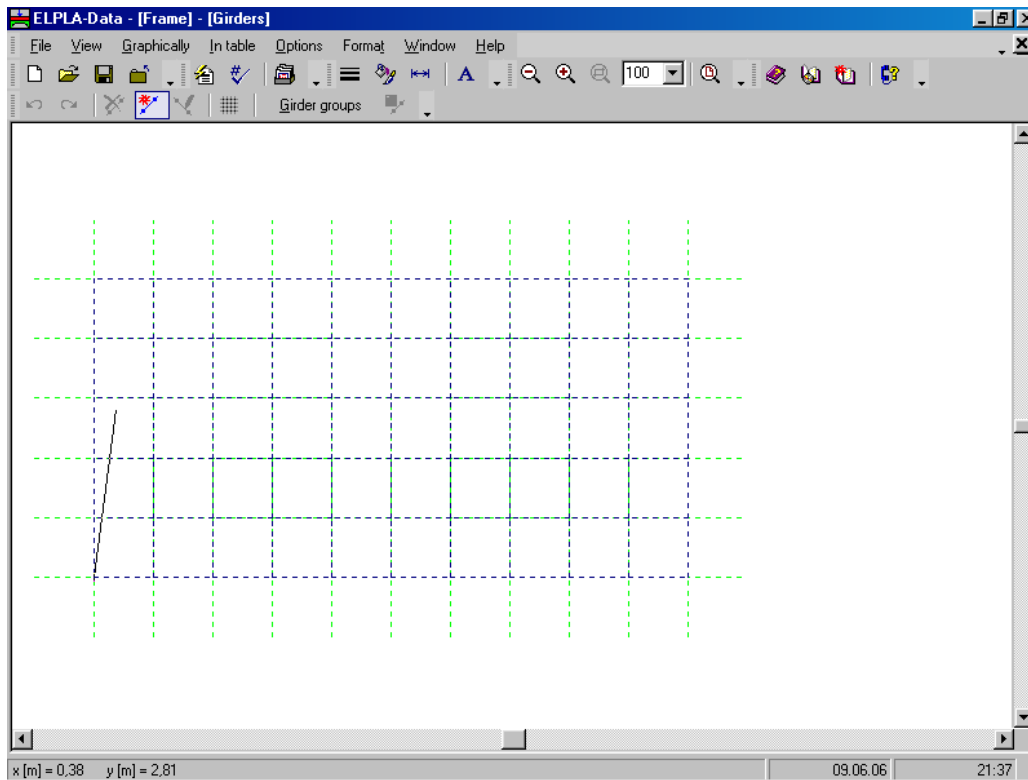
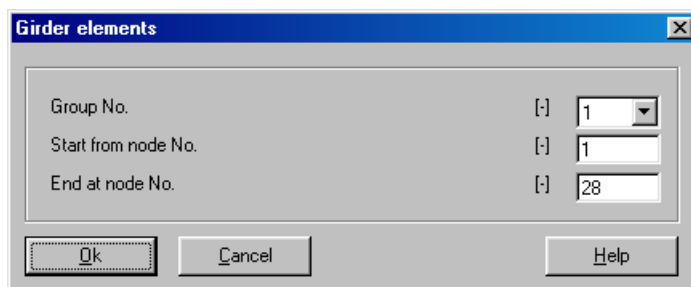

Figure 7-14 Add girder by mouse
Figure 7-15 "Girder elements" dialog box
- Choose "Add girders" command from the "Graphically" menu in Figure 7-14. When "Add girders" command is chosen, the cursor will change from an arrow to a cross hair
- Click the left mouse button on the start node of the first girder and drag the mouse until the end node of that girder (Figure 7-14). Then, click on the end node. The "Girder elements" dialog box in Figure 7-15 appears